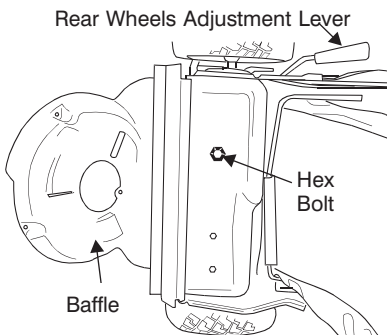

Figure 21
5. Move rear height adjuster to the highest position. See Figure 21.
- Remove the hex bolt holding the transmission to the mower housing. See Figure 21.